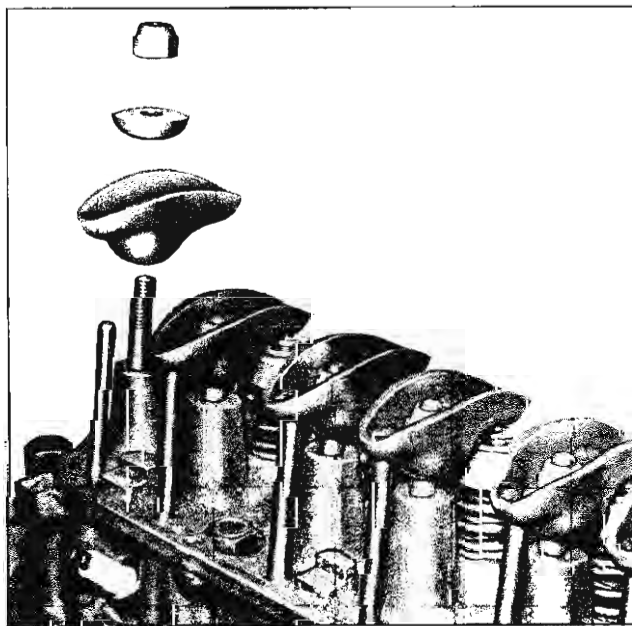

Fig. 25—Rocker Arm Installation
6. Install rocker arms, balls and nuts and tighten rocker arm nuts until all push rod play is taken up (fig. 25).